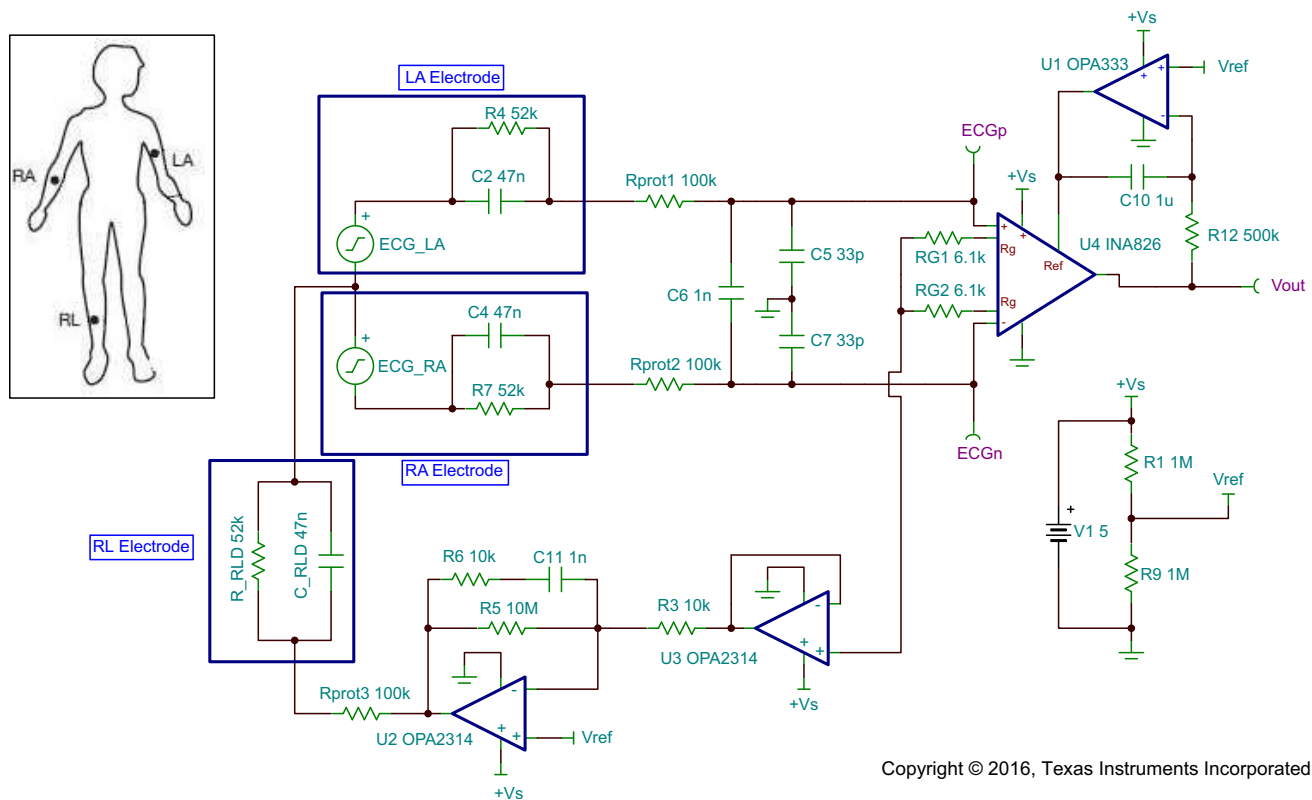

Figure 69. ECG Circuit
Figure 69 is an example of a LEAD I ECG circuit. The input signals come from leads attached to the right arm (RA) and left arm (LA). These signals are simulated with the circuitry in the corresponding boxes. Protection resistors (R_{PROT1} and R_{PROT2}) and filtering are also provided. The OPA333 is used as an integrator to remove the gained-up dc offsets and servo the INA826 outputs to V_{REF} . Finally, the right leg drive is biased to a potential ($+V_S / 2$), and inverts and amplifies the average common-mode signal back into the patient's right leg. This architecture reduces the 50-Hz and 60-Hz noise pickup.